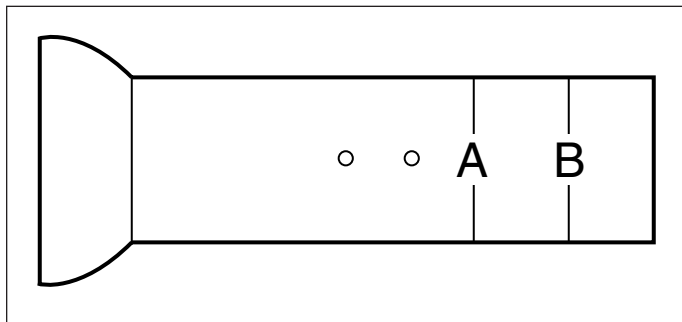

Figure 5. Upper Tube Length
1. 50" models covered by this manual require upper tube (G, Figure 5) to be shortened. Shorten tube by cutting through along line "B" line. See Figure 5.